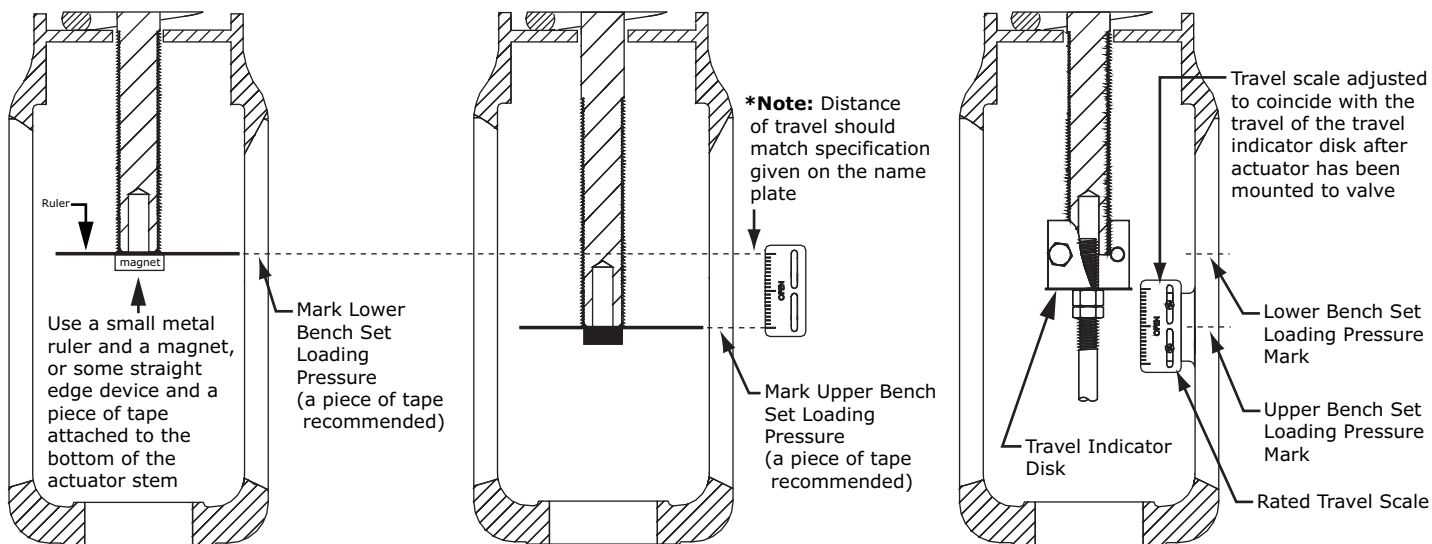

Figure 5 Bench Set Travel Adjustment Diagram
Adjust the spring adjuster (Key 2) to the left (clockwise) to decrease the bench set pressure required. It may be necessary to lower the loading pressure to make adjustments to the spring adjuster. Refer to Figure 5.
Adjust the spring adjuster (Key 2) to the right (counter-clockwise) to increase the bench set pressure required. It may be necessary to lower the loading pressure to make adjustments to the spring adjuster. Refer to Figure 5.
- 7 Increase the loading pressure to the upper bench set limit, the actuator stem (Key 9) should lower towards the direction of the valve (if a valve were installed). Mark the position of the bottom of the actuator stem using the method shown in Figure 5 or equivalent.